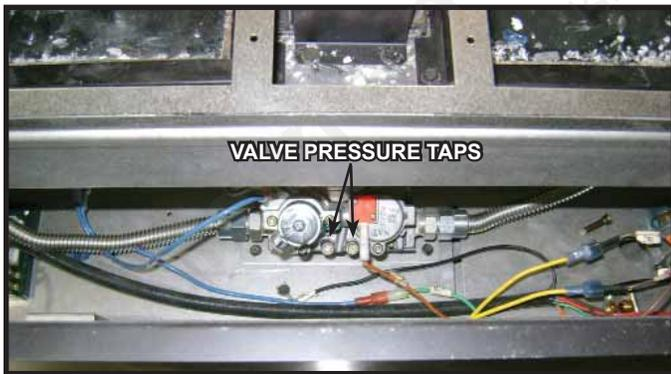

Figure 9.1. Valve Pressure Taps.
6. There are three access windows located on the interior of the firebox bottom. See Figure 9.1. Remove screws and plate to access the manual shutoff valve included with this fireplace.